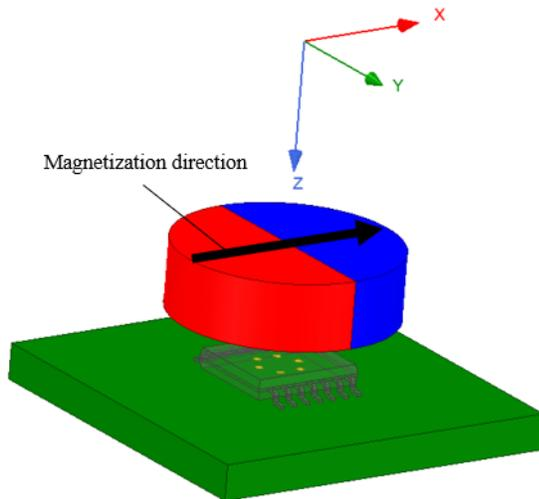

Figure 3: Isometric view of the A33023 and the cylinder magnet with diametrical magnetization
- A two poles ring, cylinder, or block magnet with a diametrical magnetization (Figure 3). The typical magnetic field seen by these channels is shown in Figure 4.